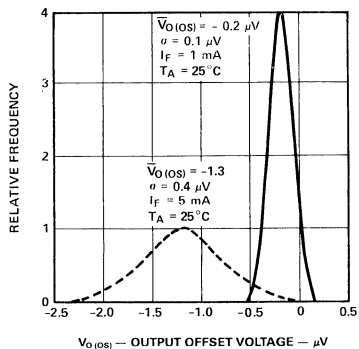

Figure 7. Output Offset Voltage Distribution.
3. $V_{0(05)}$ is a function of $I_{F(ON)}$ and is defined between pins 8 and 5 with pin 5 as reference. $V_{0(05)}$ must be measured in a stable ambient. See Figure 7 for variation of $V_{0(05)}$ around the typical value.